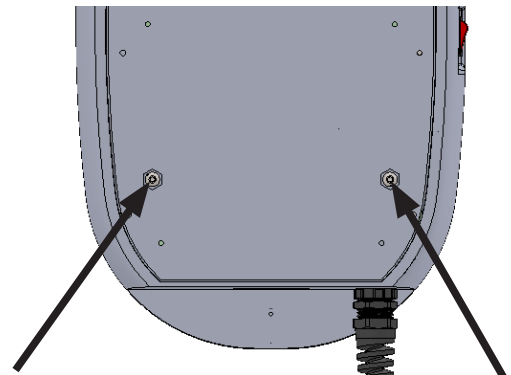

Figure 9: Remove M4x16 screws
- Take the base unit from the packing box and keep it on the cushioned surface. Remove the 2 M4X16 Hex Socket head cap screws from the rear side of the base unit using 2.5mm allen key as shown in Figure 9 and keep the screws aside and put back the console assembly in the slot.